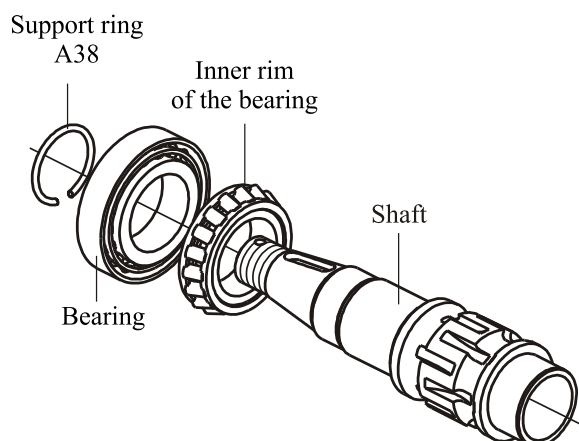

Fig.7
14. Remove from shaft support ring A38, front bearing and drive out inner rim of back bearing (вжж Fig.7).